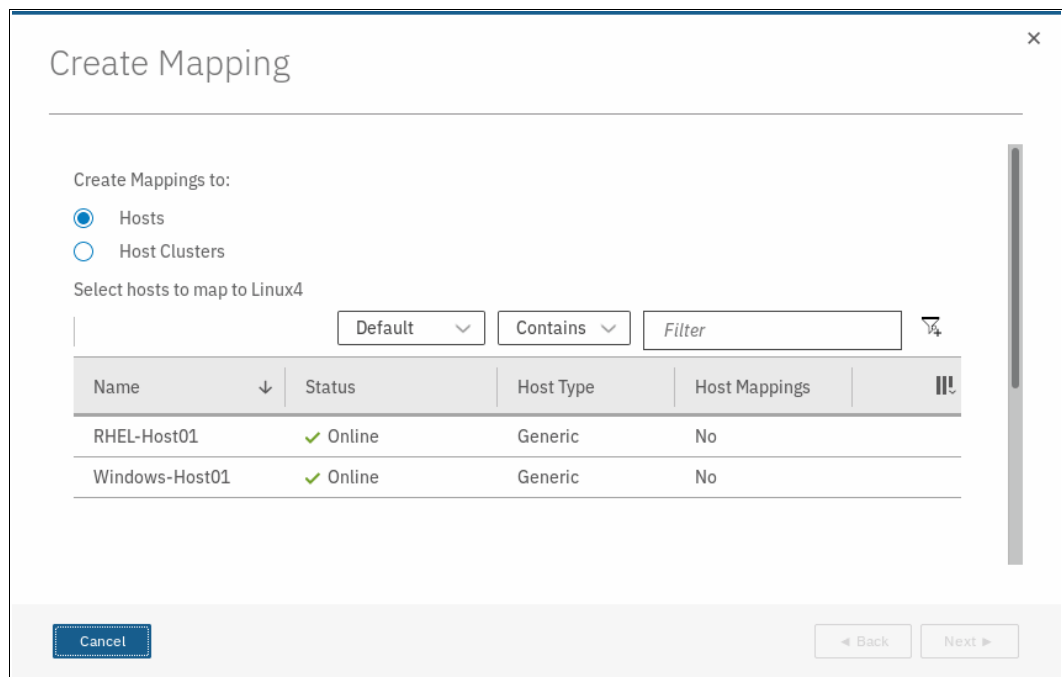

Figure 6-18 Mapping a Volume to Host
3. A Create Mapping window opens. In this window, indicate whether the volume needs to be mapped to a host or host cluster, select the wanted host or host cluster, and whether you want system assigned SCSI ID or self-assigned, as shown in Figure 6-18.